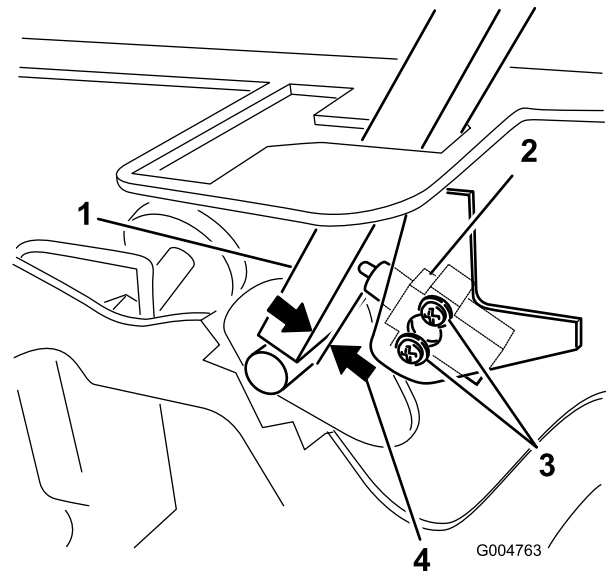

Figure 47
3. Loosen the 2 screws securing the interlock switch (Figure 47).
4. Holding the control lever against the frame, move the switch toward the lever until the distance between the lever and switch body is 0.4 to 1 mm (0.015 to 0.045 inch) as shown in Figure 47.